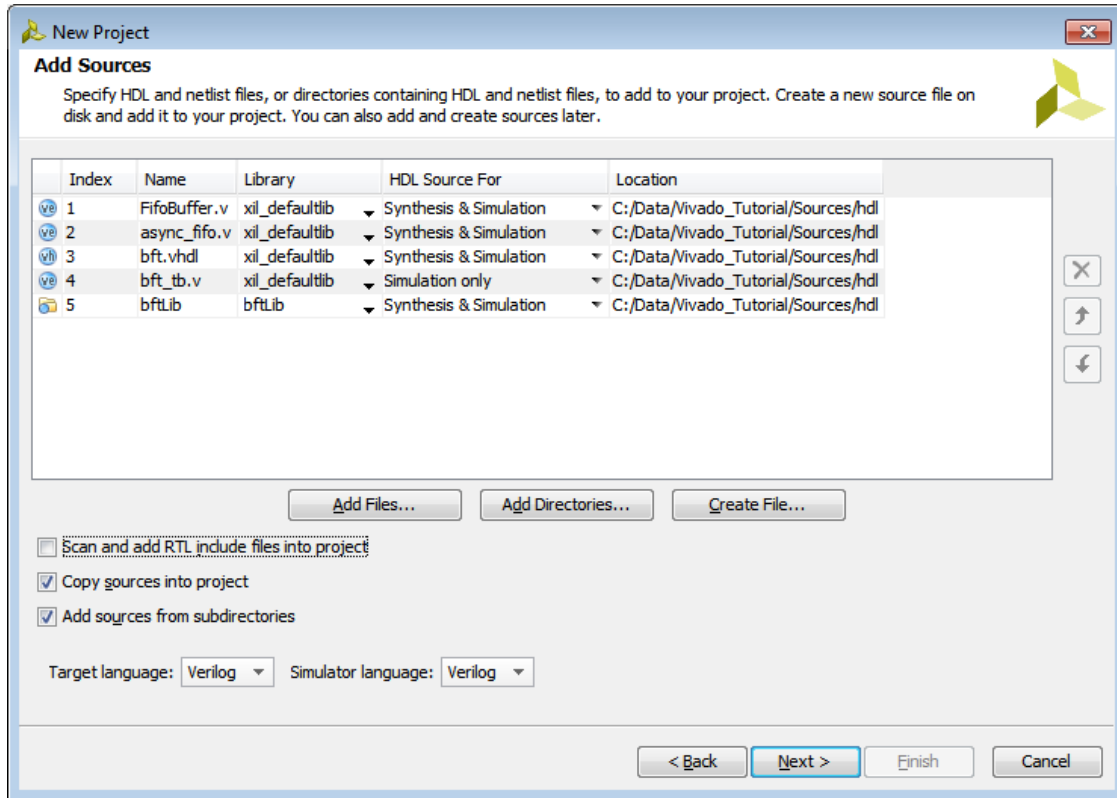

Figure 12: Add RTL Sources
11. Click in the **Library** column for the `bftLib`, and manually edit the value to change it from **xil_defaultlib** (or work) to **bftLib**, as shown in Figure 12.